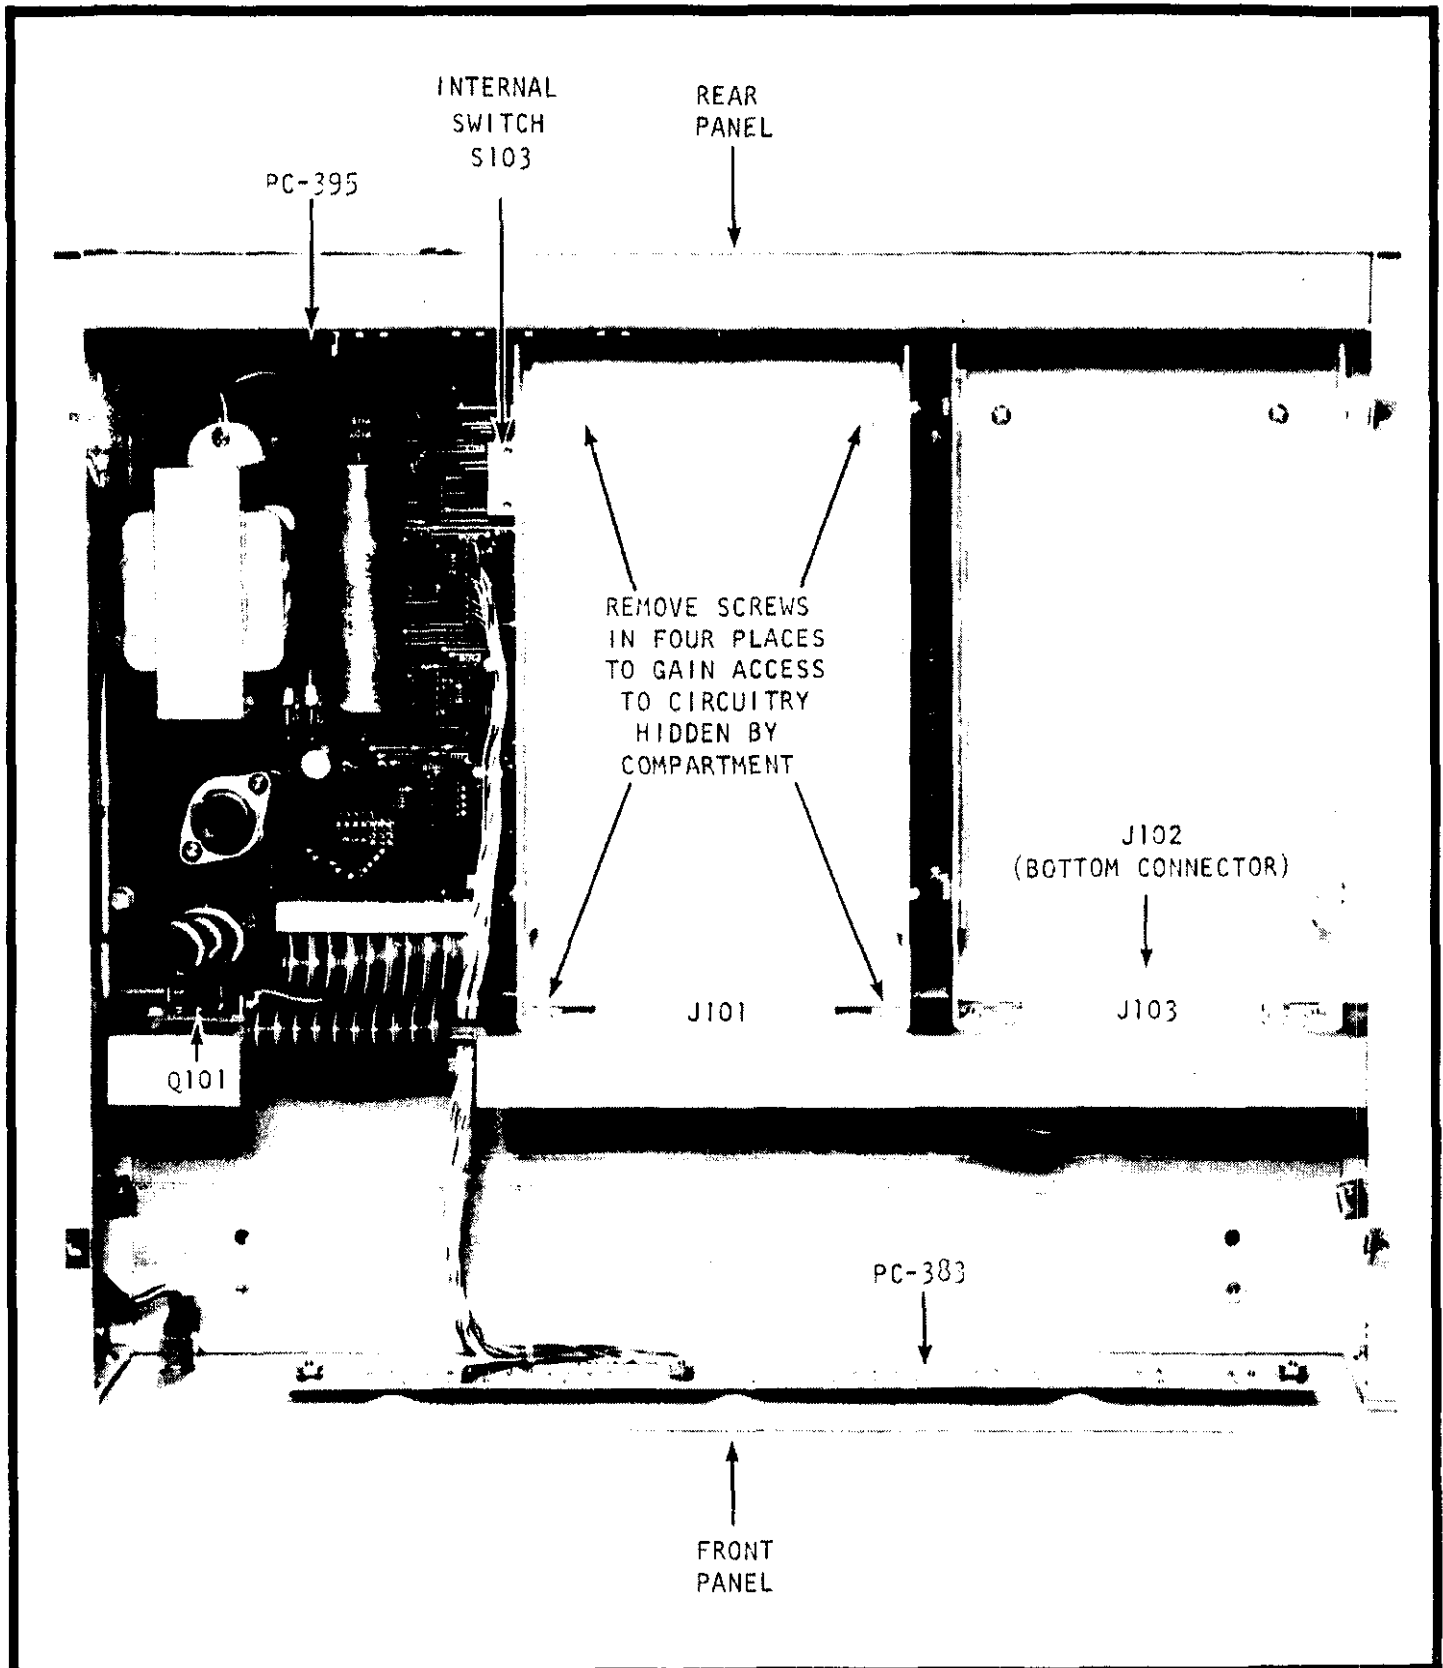

FIGURE 5. Top View of Control Unit With Cover Removed.
a. Use of more than one Control Unit. The Control Unit has an internal switch (S103) which is set at the factory in CUI position, to designate the Control Unit as "Control Unit 1". If two Control Units are to be used in the System 1, the Dual Control-Unit Coupler must be incorporated and the second Control Unit must be designated as CU2. If only one Control Unit is used, no modification of the Control Unit is needed. See Figure 5 for location of internal switch S103.